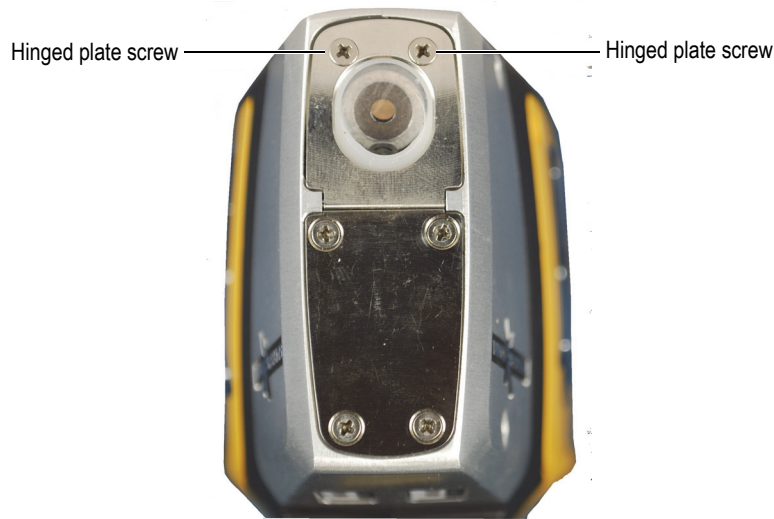

Figure 9-3 Hinged plate screws
2. Using the Phillips head screwdriver, remove the two hinged plate screws (see Figure 9-3 on page 111).